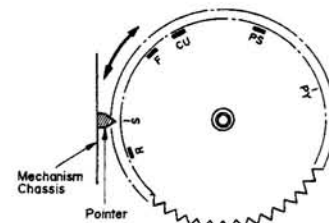

Fig. 2.3
- (1) **Offset Adjustment of Control Motor Driver**
- (a) Refer to Fig. 2.3.